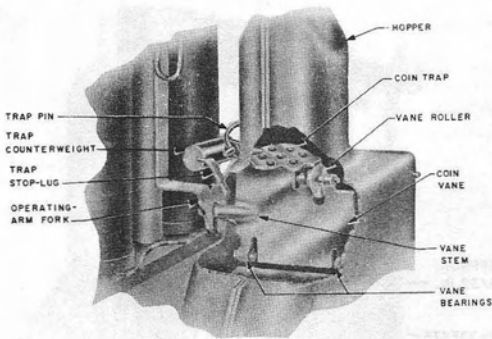

Fig. 54—Hopper and Rear of Two-Coil Coin Relay
- (3) Check trap for catching on vane or on vane roller as follows:
- (4) Check clearance between trap and vane roller as follows:
- (b) Move vane to vertical position. If vane rubs on trap, adjust trap stop lug so that trap will just clear vane (Fig. 54).
- (c) With vane in vertical position, lift trap counterweight. Trap should not move more than a few degrees before touching vane roller. Adjust by bending stop lug (Fig. 54).
- (5) Check operating arm fork and vane stem for roughness. Clean and lubricate as covered in 6.117. Also check operating stud. If stud is rough or roller type, replace relay.
- (6) Remount coin relay as covered in 6.118 and repeat trap and vane release test. If mechanism fails, replace relay.